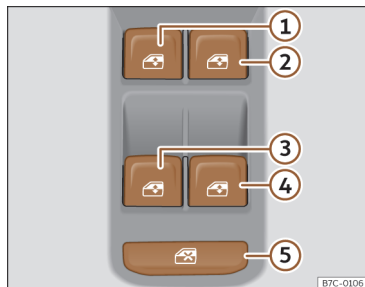

Fig. 87 Detail of the driver's door: window controls.
The safety control >>> **Fig. 87 ⑤** on the driver's door can be used to disable the electric window buttons on the rear doors.